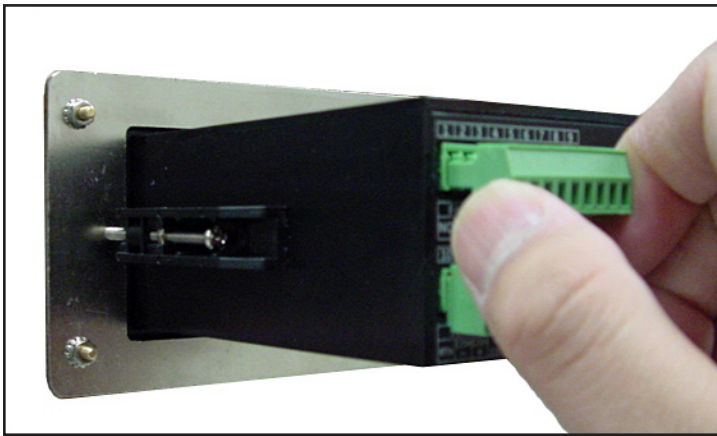

Figure 30: Removing the Upper Connector
1. Remove the connector from the upper terminal block on the rear of the **dew.IQ** (see Figure 30 below).
1. Remove the connector from the upper terminal block on the rear of the **dew.IQ** (see *Figure 30 on page 28*).